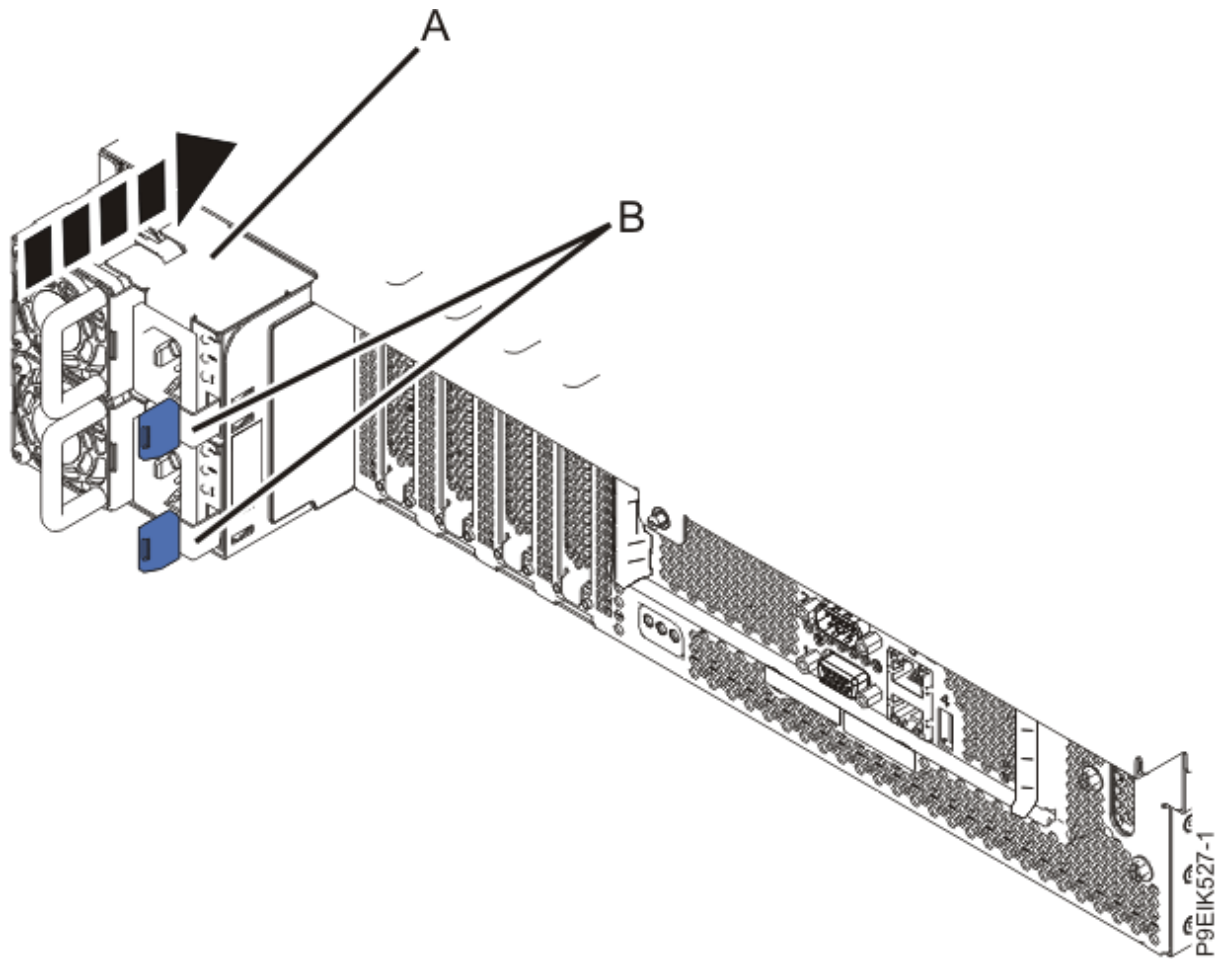

Figure 97. Replacing the power supplies in the system
4. Replace the power supplies as shown in Figure 97 on page 123.